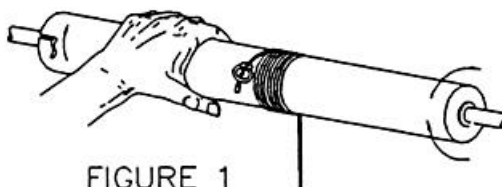

FIGURE 1
2. Turn large tube of counterbalance opposite from direction spring hook points (see Figure 1). For extruded door in 40" (1016 mm) wide x 82" (2083 mm) high bay, turn tube 25 times. **CAUTION SHOULD BE EXERCISED BECAUSE SPRING TENSION ON COUNTERBALANCE INCREASES. RAPID RELEASE OF TENSION COULD RESULT IN INJURY**